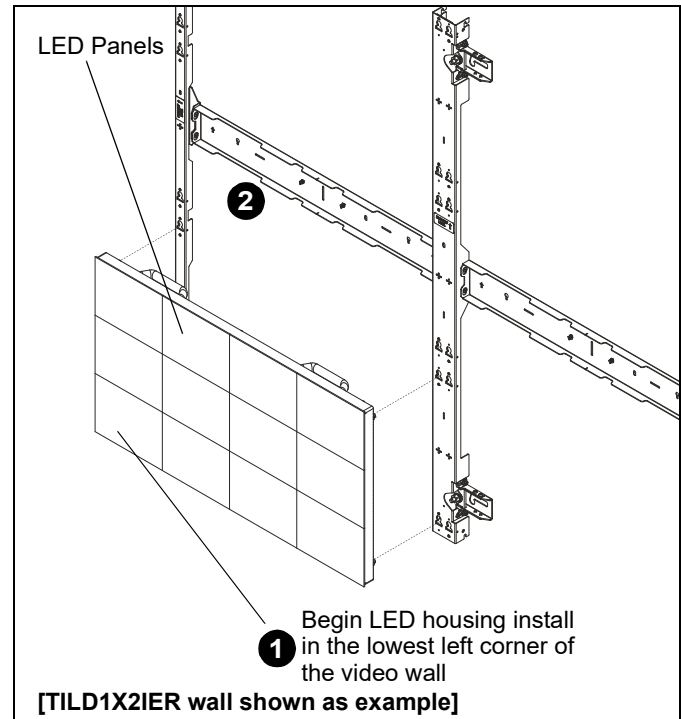

Figure 24
1. Install the first LED housing in the lowest left-hand corner of the video wall by aligning mounting buttons on the housing with the mounting holes on the wall mount. (See Figure 24)